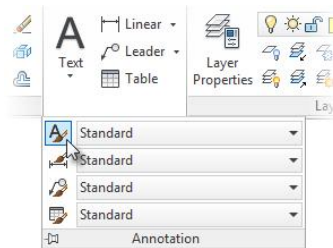

FIGURE 8.2: Starting the STYLE command
2. On the Home tab > expanded Annotation panel, click the Text Style button (see Figure 8.2), or enter **ST**↵ to start the STYLE command.